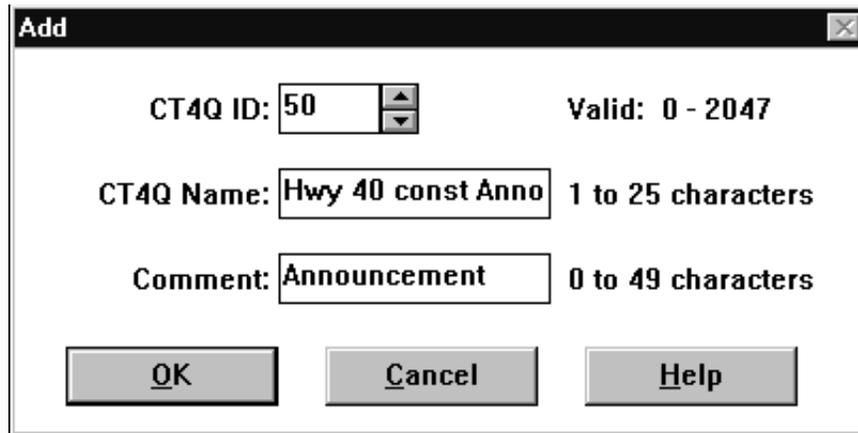

FIGURE 125. Example of Add dialog box for an XCT4QMNU table file
1. Select Add to open the Add dialog box. (See Figure 125.)